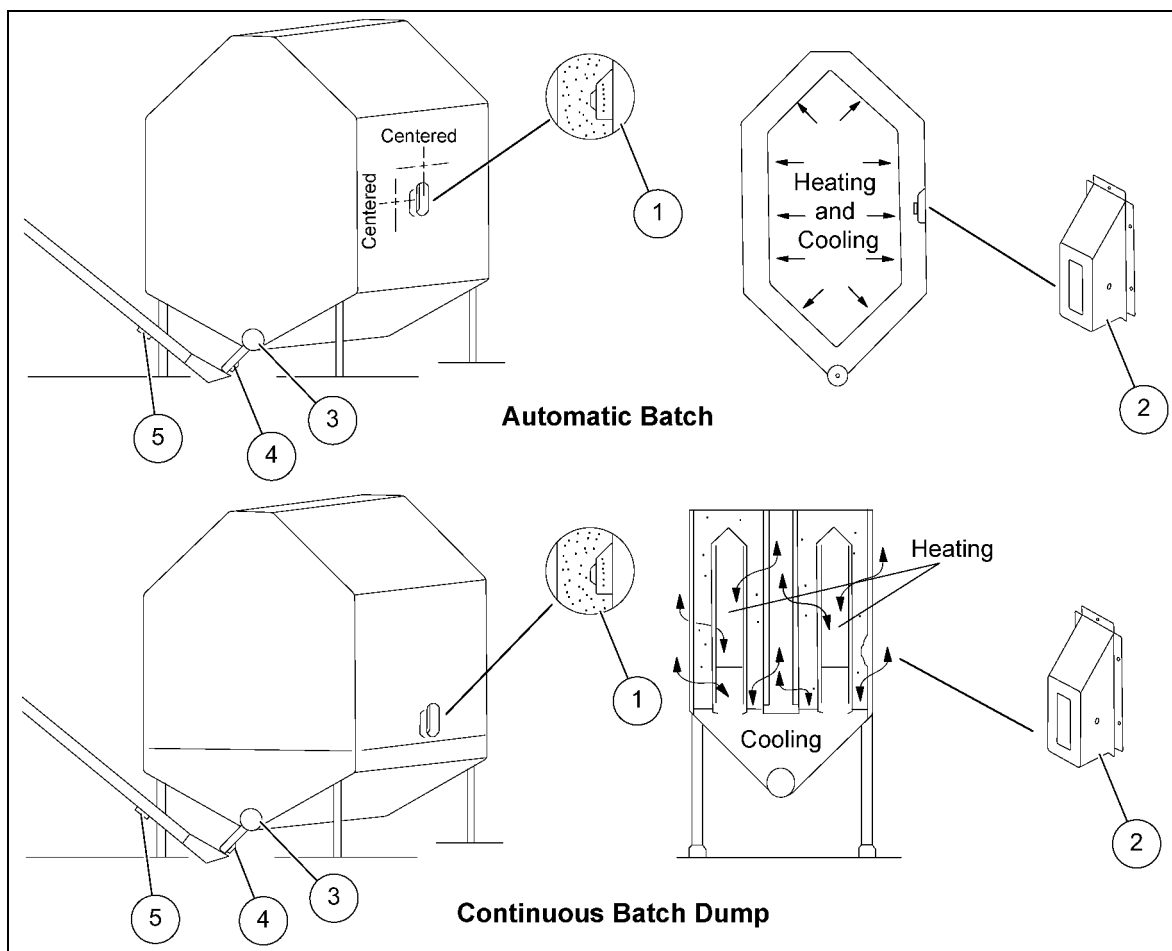

Figure 3M
2. The sensor and column housing is intended to be mounted in a column of drying grain. It should be mounted in the column area just above where cooling begins for continuous-batch-dump dryers and centered in the dryer column for automatic batch dryers. Cut a 4-1/2" x 13-1/4" hole in the side of the column and insert the housing and sensor assembly. Use six self-tapping screws to secure the flanges of the housing the column side sheet. (See Figure 3M.)
3. Continuous flow type dryers that cool the dried grain before it is discharged from the dryer should have a sensor and column housing installed in the side panel of the dryer. Center the sensor housing just above the cooling area. (*See Figure 3M on Page 17.*)
4. Continuous flow dryers that discharge the dried grain hot should install the sensor in one of the three locations in the discharge area. See the possible discharge sensor locations in. (*See Figure 3M on Page 17.*)
5	Column, Refer to Figure 3M .